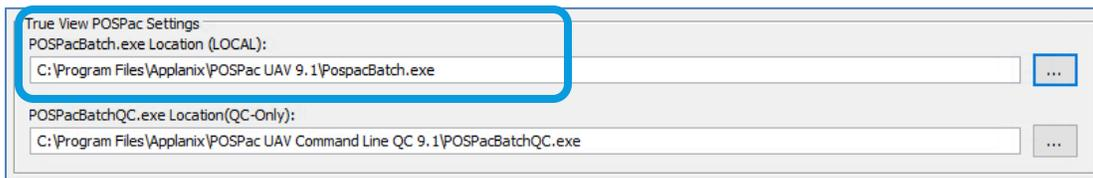

Figure 10 - TrueView POSPac Settings
4. Under *POSPacBatch.exe Location (LOCAL)* (Figure 10), navigate to "C:\Program Files\Applanix\POSPac UAV 9.1\" or "C:\Program Files\Applanix\POSPac MMS 9.1\" and select *PospacBatch.exe*. Then, select Apply when finished to commit the setting.